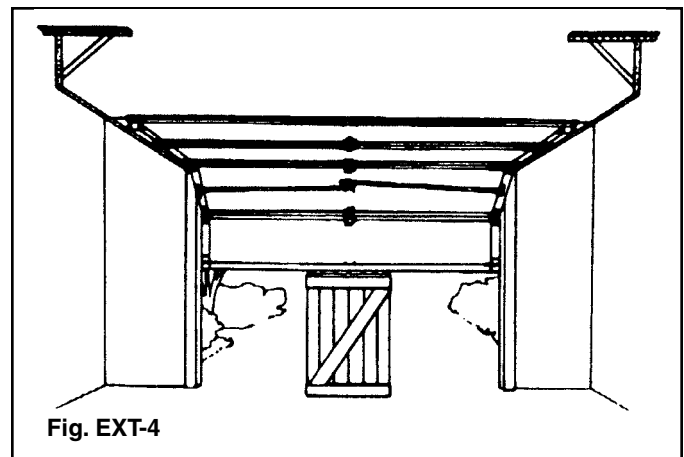

Fig. EXT-4
Step 4: Carefully raise the door and prop it about halfway open. (FIG. EXT-4)